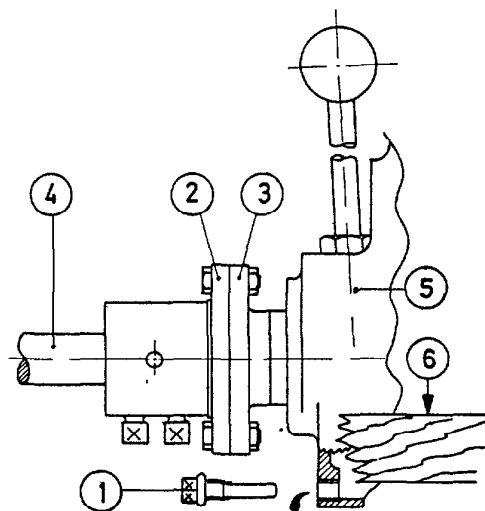

FIG. 1.
DRAWINGS FIG. 1 - 14.
A) Fig. 1 to 4 : Dismantling Rear Oil Seal (Pos. 17).
B) Fig. 1 to 8 : Dismantling Gear Coupling Sleeve (Pos. 31) with ball bearings, Lock Bolt and Operating Shaft.